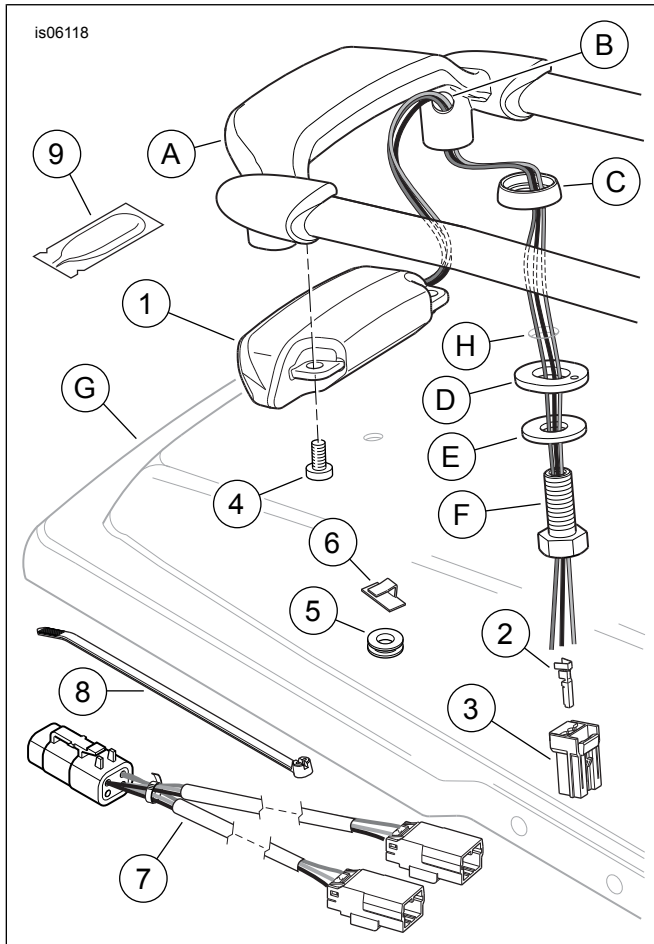

Figure 3. Service Parts, Air Wing Saddlebag Lid Rail Light Kits
See Figure 3 and Table 1.
- ALL installations:** See Figure 3. Obtain a saddlebag rail light assembly (1) from the kit.
- Insert the light wires through the hole (B) in the side of the saddlebag rail (A) mounting post, and out through the bottom of the post.
- Install the light to the underside of the saddlebag rail rear cross bar with two screws (4) from the kit. Tighten the screws >securely.
- Insert the light wires through the left rear saddlebag rail mounting pad (C) and the left rear hole (H) in the saddlebag lid (G). Assemble the saddlebag rail to the lid per the instructions in the Air Wing Saddlebag Rail Kit, feeding the wires through the left rear saddlebag rail nylon washer (D), plain washer (E) and the hex head hollow screw (F). Tighten the two **Phillips head** screws to 3.1–3.5 N·m (27–31 **in-lbs**). Tighten the hex head **hollow** screw to 3.4–5.6 N·m (30–50 **in-lbs**).
3. Adhesive-backed clip (3)
2. See Figure 3. Obtain six socket terminals (2) and two socket housings (3) from the kit. Refer to the service manual and follow the instructions to crimp the terminals onto the saddlebag rail light wires.